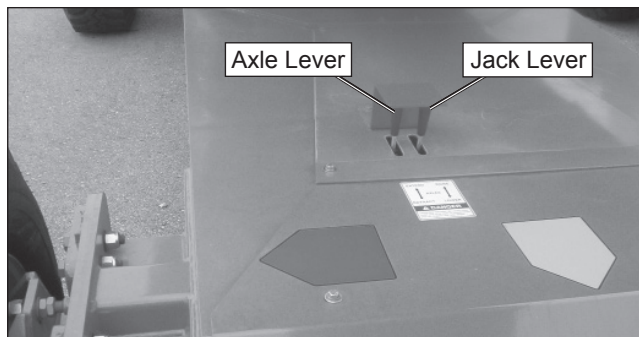

Figure 8.2 – Top of Chassis
1. With the machine set up for operation from the lower controls, place the boom/axle switch (refer to Figure 8.2) in the axle position.
2. Hold the jack lever (refer to Figure 8.2) in the raise position until the rear wheels are off the ground and the jack has stopped lifting the chassis.